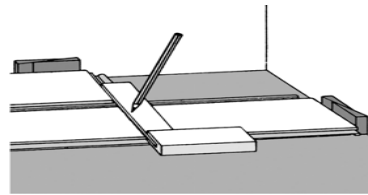
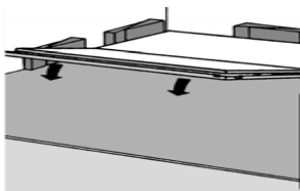

Fig.2
Fig.3
- Measure the row before laying the first panel and cut the first panel according to the length required for the last panel, ensure that the last panel is a minimum of 8" (20cm) (Fig.2). Install the first row by laying the first panel in the left-hand corner of the room with the tongue facing the wall allowing a 5.5mm (1/4") around the perimeter of the room and at all vertical surfaces, ensure to include the tongue in the measurement when allowing for the gap, lock the ends of the panels together until the first row is finished (Fig.3&4).
- Continue to lay each remaining panel by folding the length of the panel first. **DO NOT use a hammer or tapping block to install the planks.** (Fig.3)